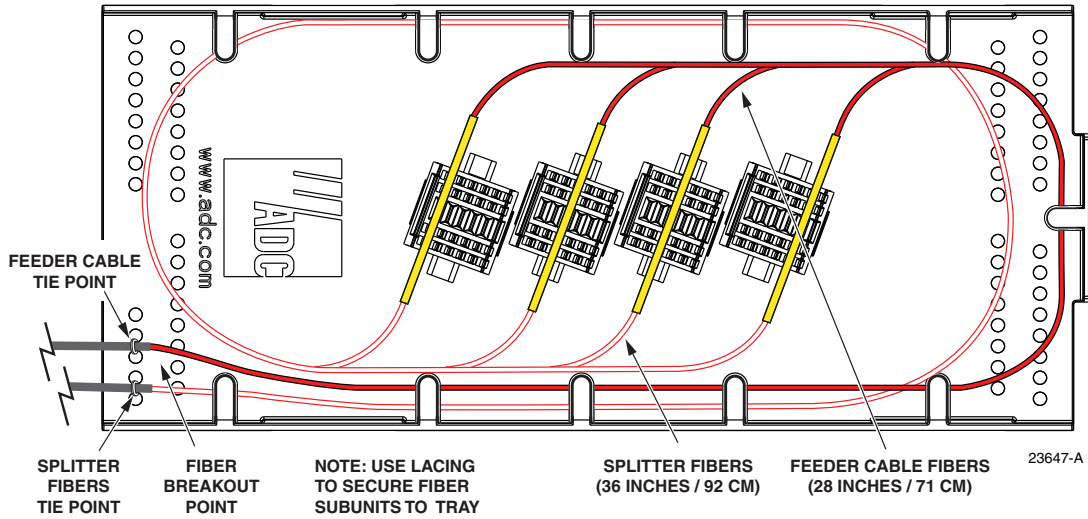

Figure 28. Stranded Fiber Splice Tray - Feeder Cable Splicing
10. Splice the feeder cable fibers to the appropriate splitter fibers as specified by local policies and procedures. Adjust and route the fibers within the splice tray as shown in Figure 28. Refer to Table 3 (See Section 6.3) for the splitter fiber designations.